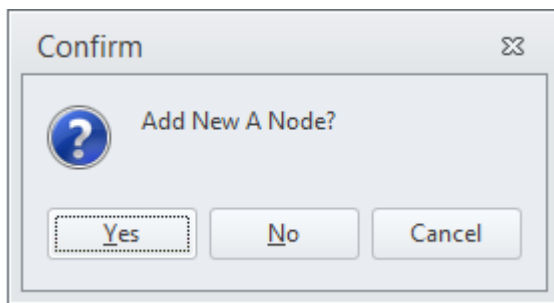

Figure 80 Add new node
- 9) The following window in Figure 80 will appear if a new node is added (i.e., if the link does not start and end in existing nodes).